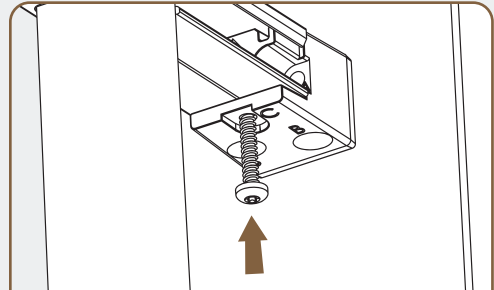

Fig.15-2 - Finishing driving #8 screw through spacer, bracket and into the top rail
- Pre-drill (B) channels through bottom of bracket with 5/32" drill bit, recommend using extension to avoid damaging post sleeve, be careful to only drill through two layers and not through top of the rail
- Drive two #10 1.75" screws (B) (Fig.15-2) through angled holes of top bracket — use an extended length bit to avoid scratching post sleeve, and hold or clamp top rail in place (Fig. 8), and ensure that top rail is level and flush when driving
- Repeat (Fig.15-2) and (Fig.15-3) for bracket at opposite end of top rail